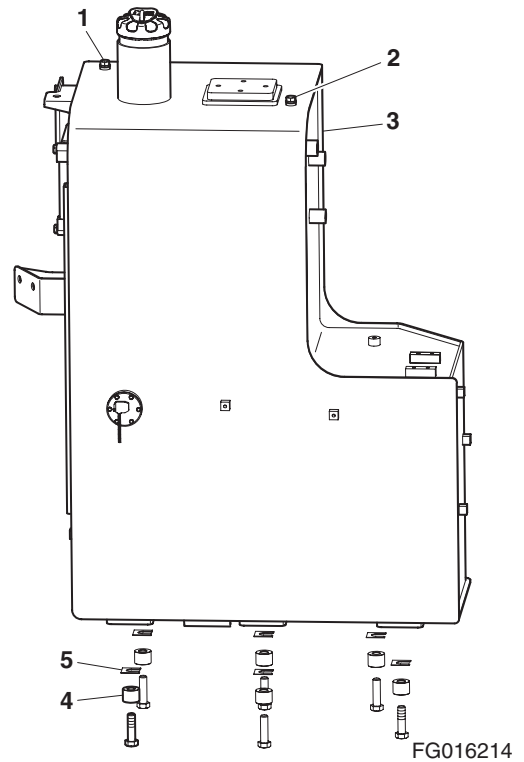

Figure 18
1. Install two 12 mm eyebolts in threaded holes (38 and 39, Figure 18). Using a suitable lifting device, sling eyebolts.
2. Set fuel tank (1, Figure 18) into position. Install four bolts (7) and spacers (13) finger tight, to secure tank to frame.
3. Install shims (9, Figure 18) as needed to prevent tank (1) from rocking or stress from mounting bolts (7).
4. Tighten mounting bolts (7, Figure 18) after shims are installed.